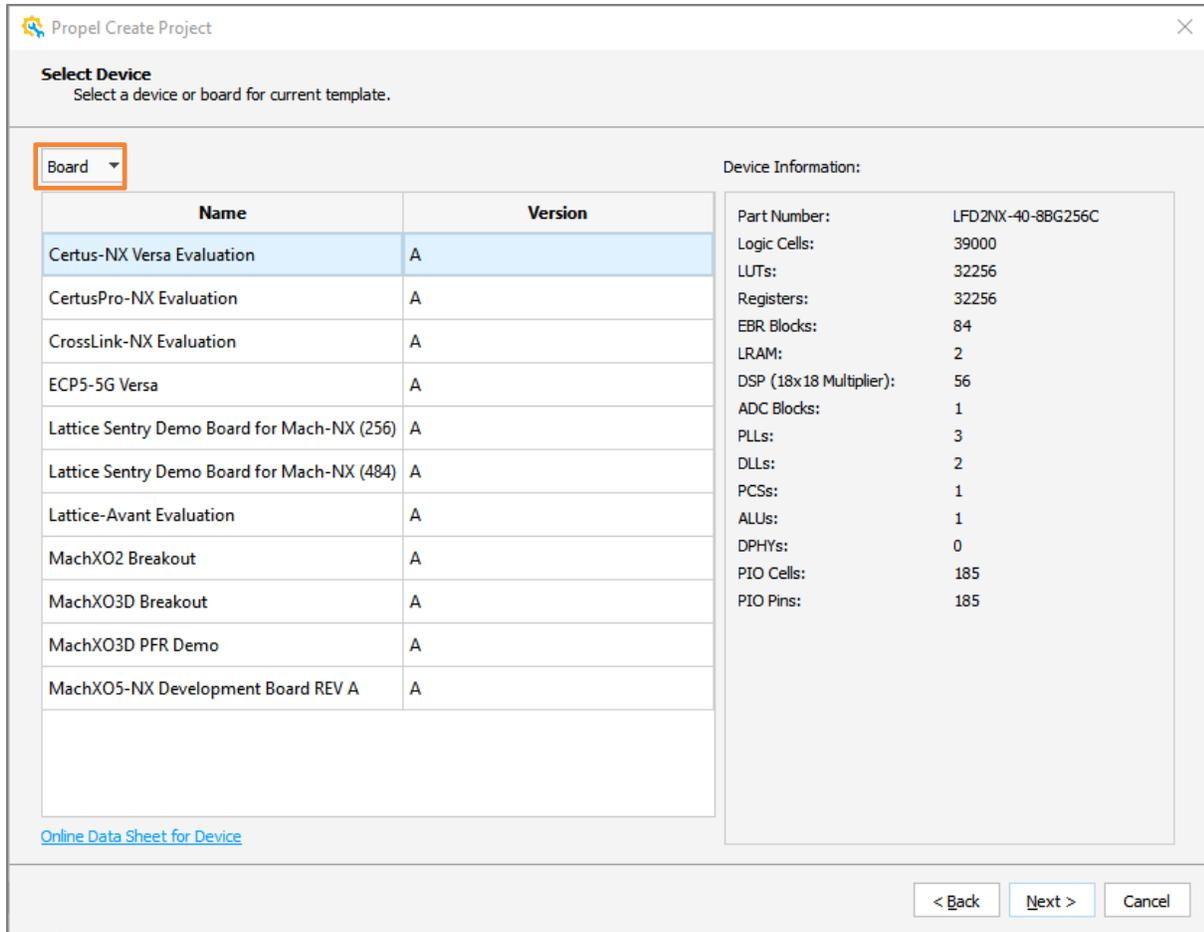

Figure 2.7. New SoC Project – Select Device
6. You can choose **Device/Board** from the following view (Figure 2.7):